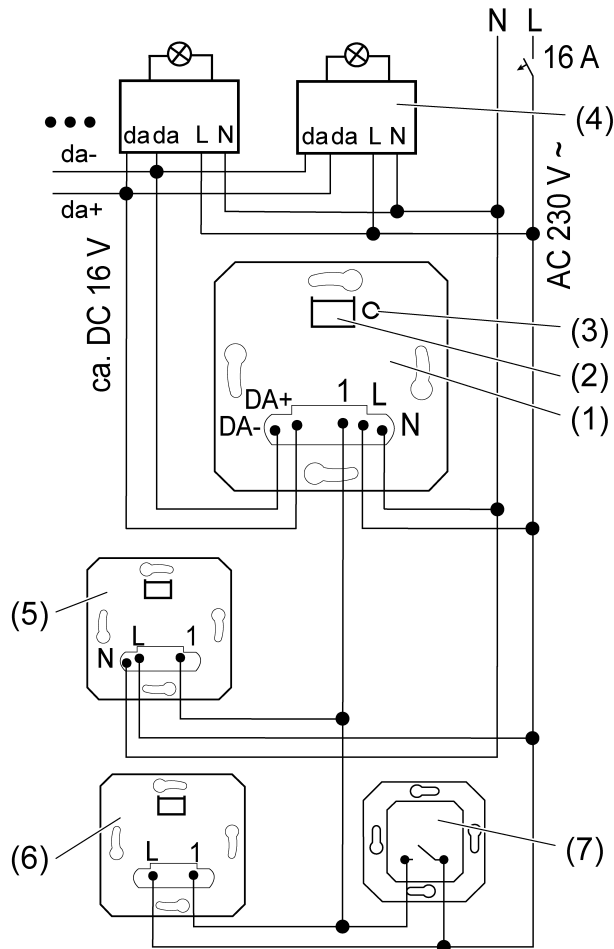

Figure 1: Connection diagram with optional extensions
- Connect the DALI insert (1) and the DALI subscriber (4) according to the connection diagram (Figure 1). In so doing, observe the manufacturer's instructions.